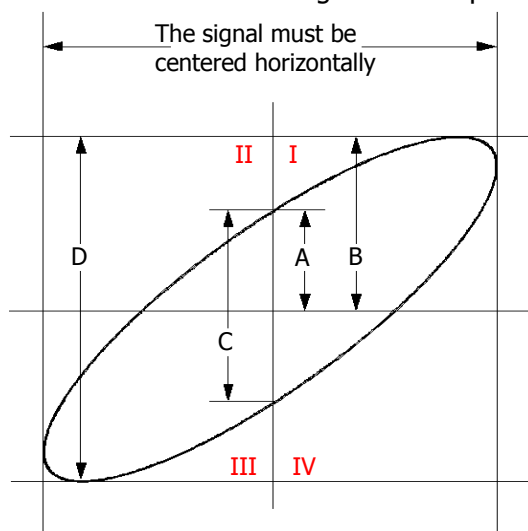

Figure 3-2 Measurement Schematic Diagram of Phase Deviation
5. Observe the measurement result shown in the figure above. According to the measurement schematic diagram of the phase deviation (as shown in Figure 3-2),  $A/B$  ( $C/D$ ) = 1. Thus, the phase deviation angle  $\theta = \pm \arcsin 1 = 90^\circ$ .